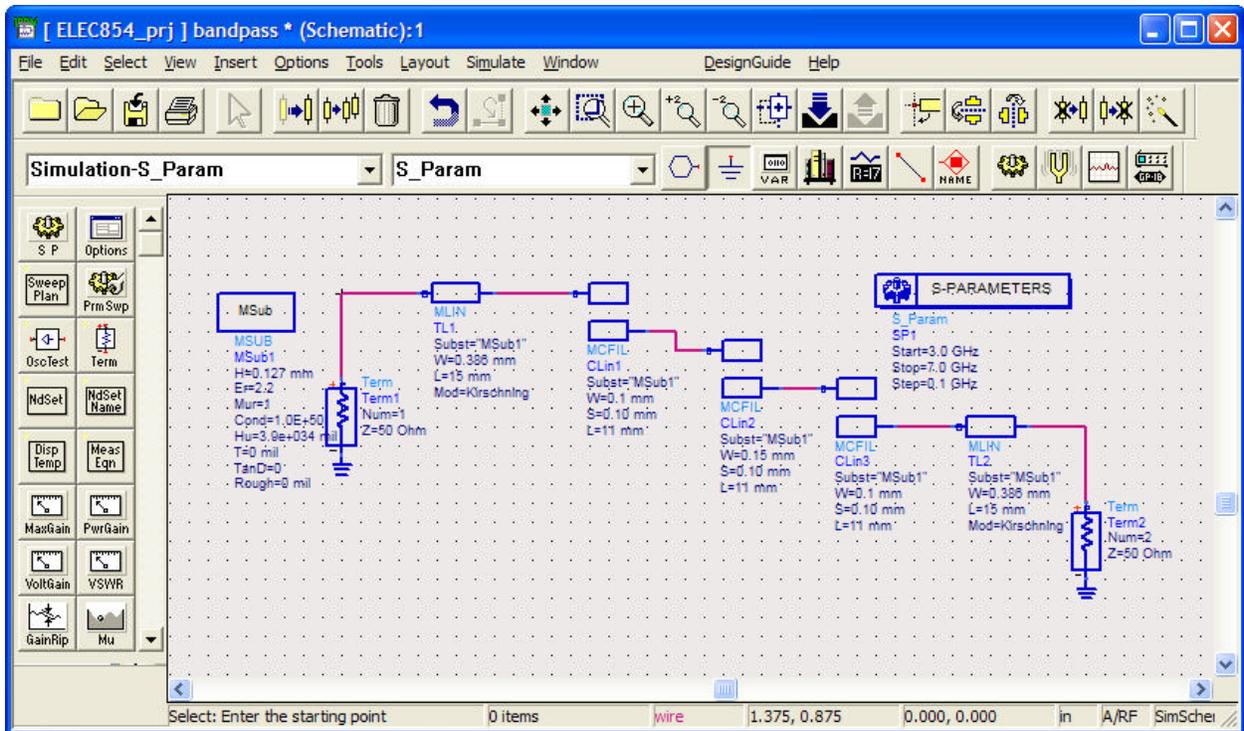

Figure 1 Bandpass Filter Schematic
10. Next select **Mcfil** from the components list and connect three of these together. For the first and third coupled line sections set $W = 0.10$ mm, $S = 0.10$ mm, and $L = 11$ mm. For the middle section set $W = 0.15$ mm, $S = 0.10$ mm, and $L = 11$ mm. Connect the two input and output 50Ω lines to the coupled line sections as shown in Figure 1.